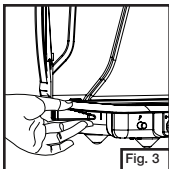

Fig. 3
- Position wind guards as desired. (Fig. 3)